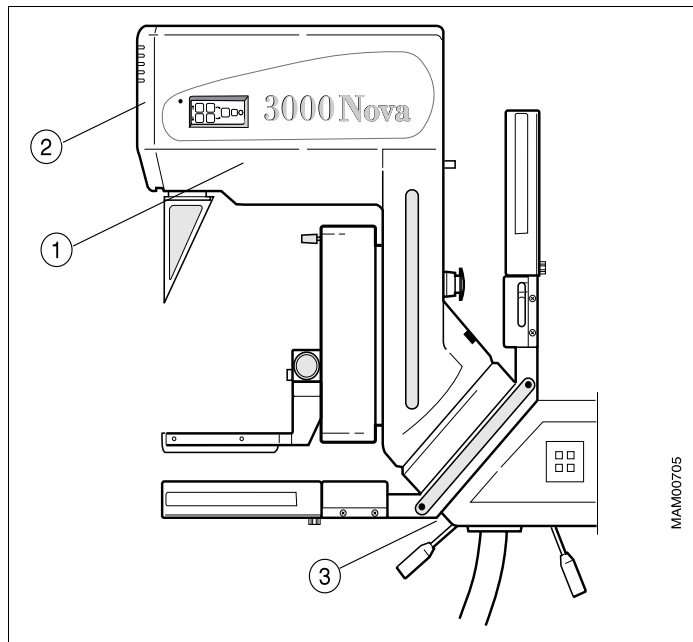

Fig. 2: X-ray tube covers
- Check the condition of the cables and the corrugated tubing (3/Fig. 2 / p. 15) while removing the following covers:
- X-ray tube covers (left, right, and front) (1, 2/Fig. 2 / p. 15)